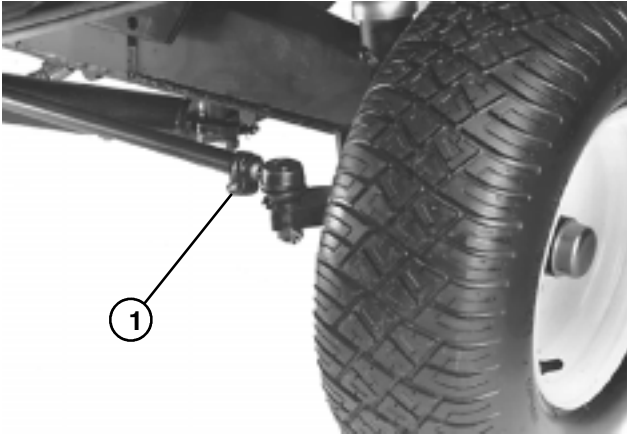

Figure 57
REAR WHEEL TOE-IN (Fig. 57)
2. To adjust 2 wheel drive models (Fig. 57):